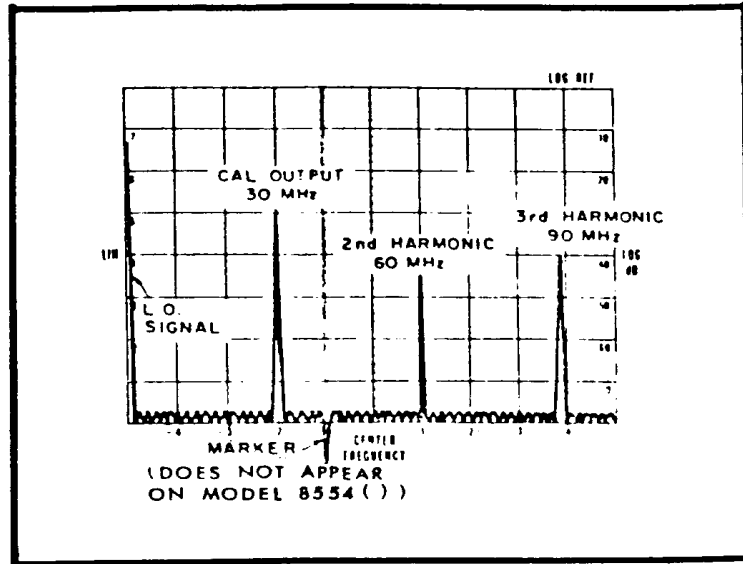

Figure 1. 30 MHz calibration signal and harmonics.
- (5) Repeat **k** (1) above.
- l. Connect RF plug-in **RF INPUT** to **TI CAL OUTPUT**, using cable (and adapter for Model 8554B). Display section will indicate as shown in figure 1.
- m. Position RF plug-in controls as listed in (1) through (5) below:
- (1) Model 8553() only: **FREQUENCY** control adjusted to position inverted marker under **CAL OUTPUT 30 MHZ** marker (fig. 1).
- (2) **SCAN WIDTH PER DIVISION** switch to **0.05 MHz** (50 kHz on Model 8554B).
- (3) **BANDWIDTH** switch to **10 kHz**.
- (4) **SCAN WIDTH** (red) switch to **PER DIVISION**.
(5) **FREQUENCY** control adjusted to center **CAL OUTPUT 30-MHz** marker (fig. 1) on display.
LOG and **LIN** scales are not on some display sections. If not, use figure 1 as guideline.
p. Adjust **DISPLAY ADJUST VERTICAL GAIN** control to position signal amplitude display exactly on **LOG REF** (top) graticule line (fig. 1).
r. Position TI controls as listed in (1) and (2) below: